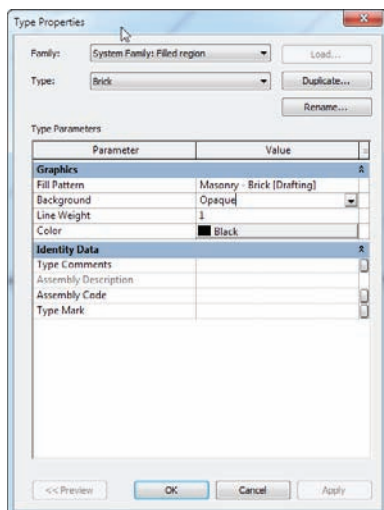

FIGURE 12.20 Changing the background to Transparent
16. Change the background from Opaque to Transparent, as shown in Figure 12.20.